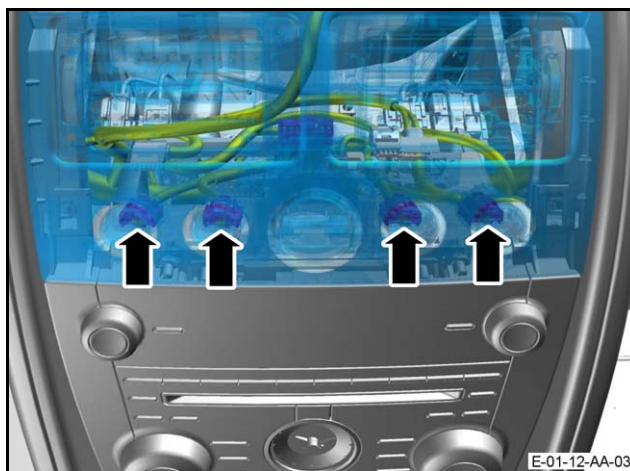

Figure 8
11. Connect the electrical connectors to each of the four transmission control switches (refer to Figure 8).